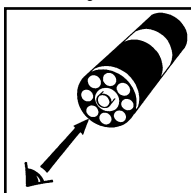

Figure 3
- a. Place the VACUette ampoule, flat end downward into the center tube of the low range comparator. Direct the top of the comparator up toward a bright source of light while viewing from the bottom. Rotate the comparator until the color standard below the ampoule shows the closest match (fig 3).